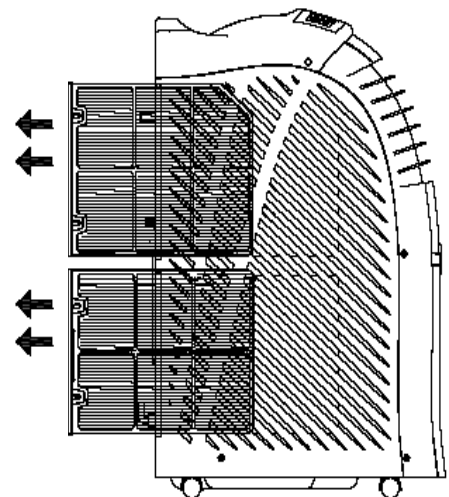

Fig. 11
1. Pull out the air filters as shown in Figure 11.